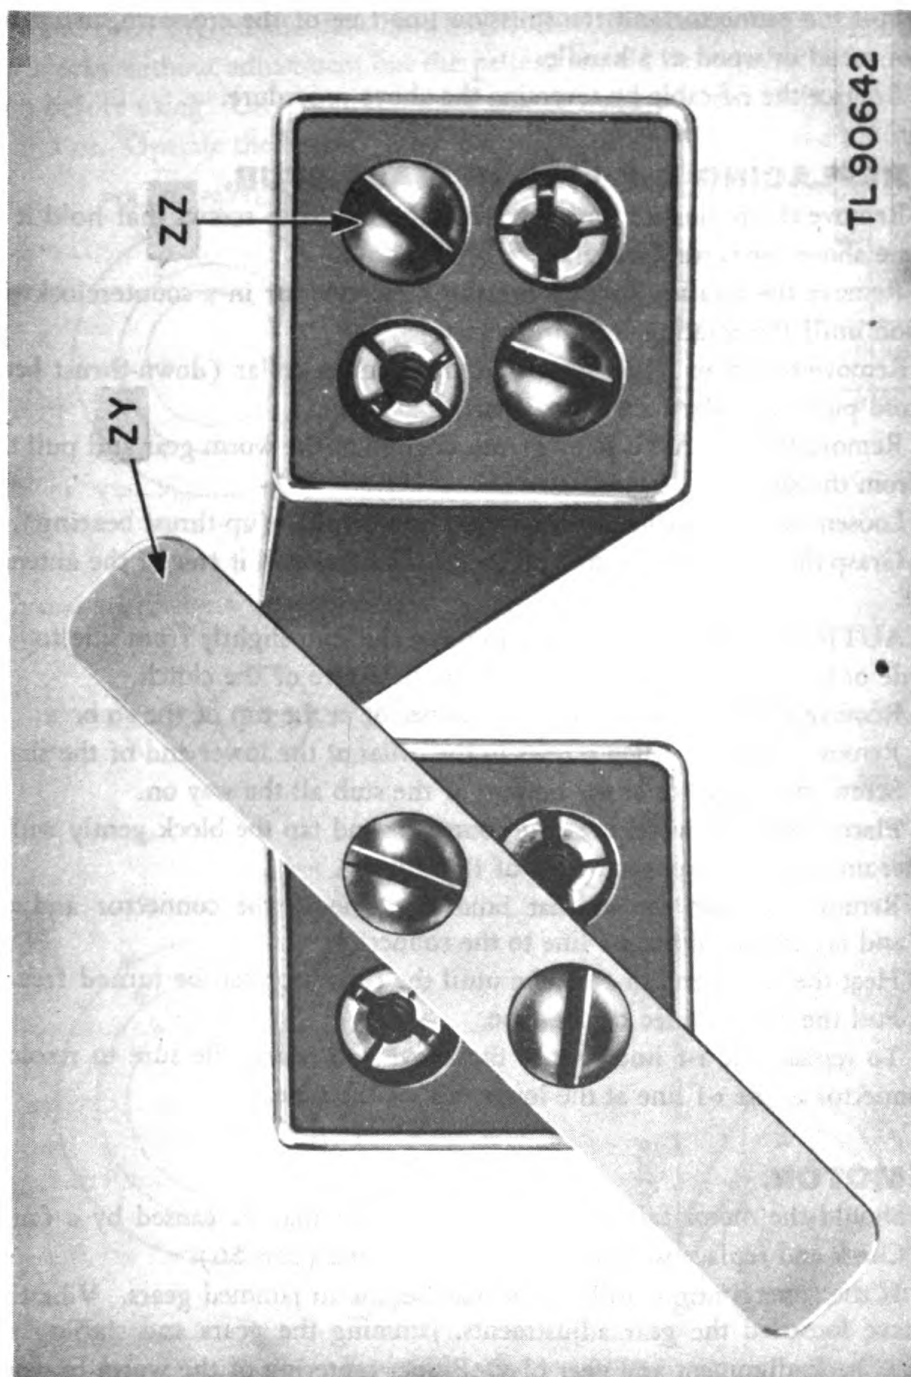

Figure 38. Removing connector from crossarm.
- e. Drill two holes in a small piece of metal or wood (z and y in fig. 38) spaced so as to coincide with the holes in the connector.
- f. Bolt the piece of wood or metal to the connector as shown in figure 38.